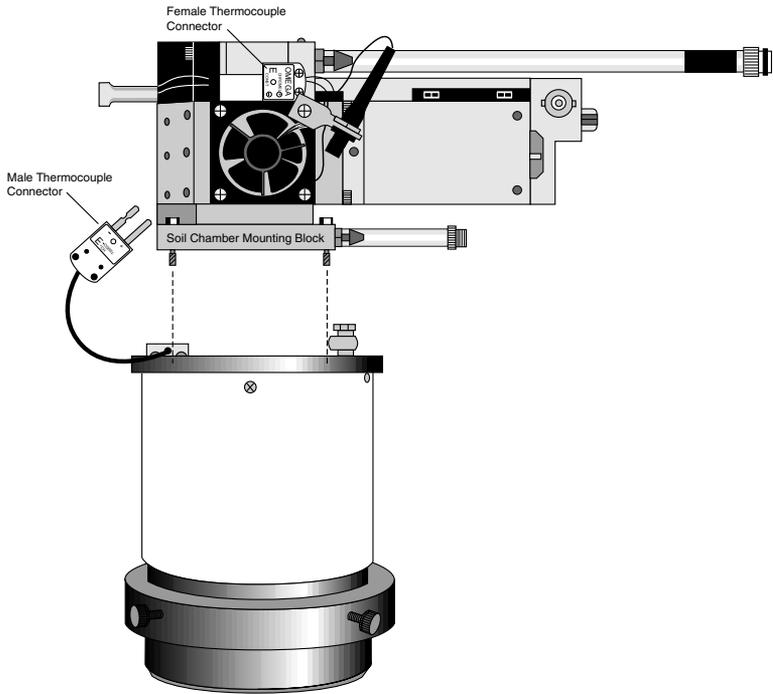

Figure 2-13. Attach the 6400-09 body to the mounting block.
8. Attach the 6400-09 body to the sensor head/mounting block assembly using the 4 cap screws (use the 5/64" hex key included), located on each corner of the mounting block (Figure 2-13).